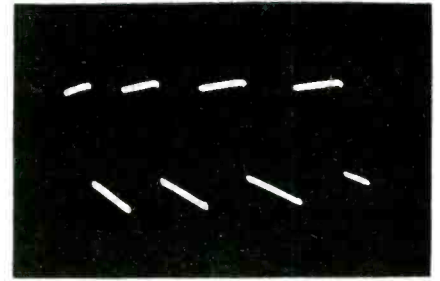

Fig. 5 — Tilted response pattern.
A. A typical tilt response is shown in Fig. 5. Tilt is the result of phase shift in the circuits under test.